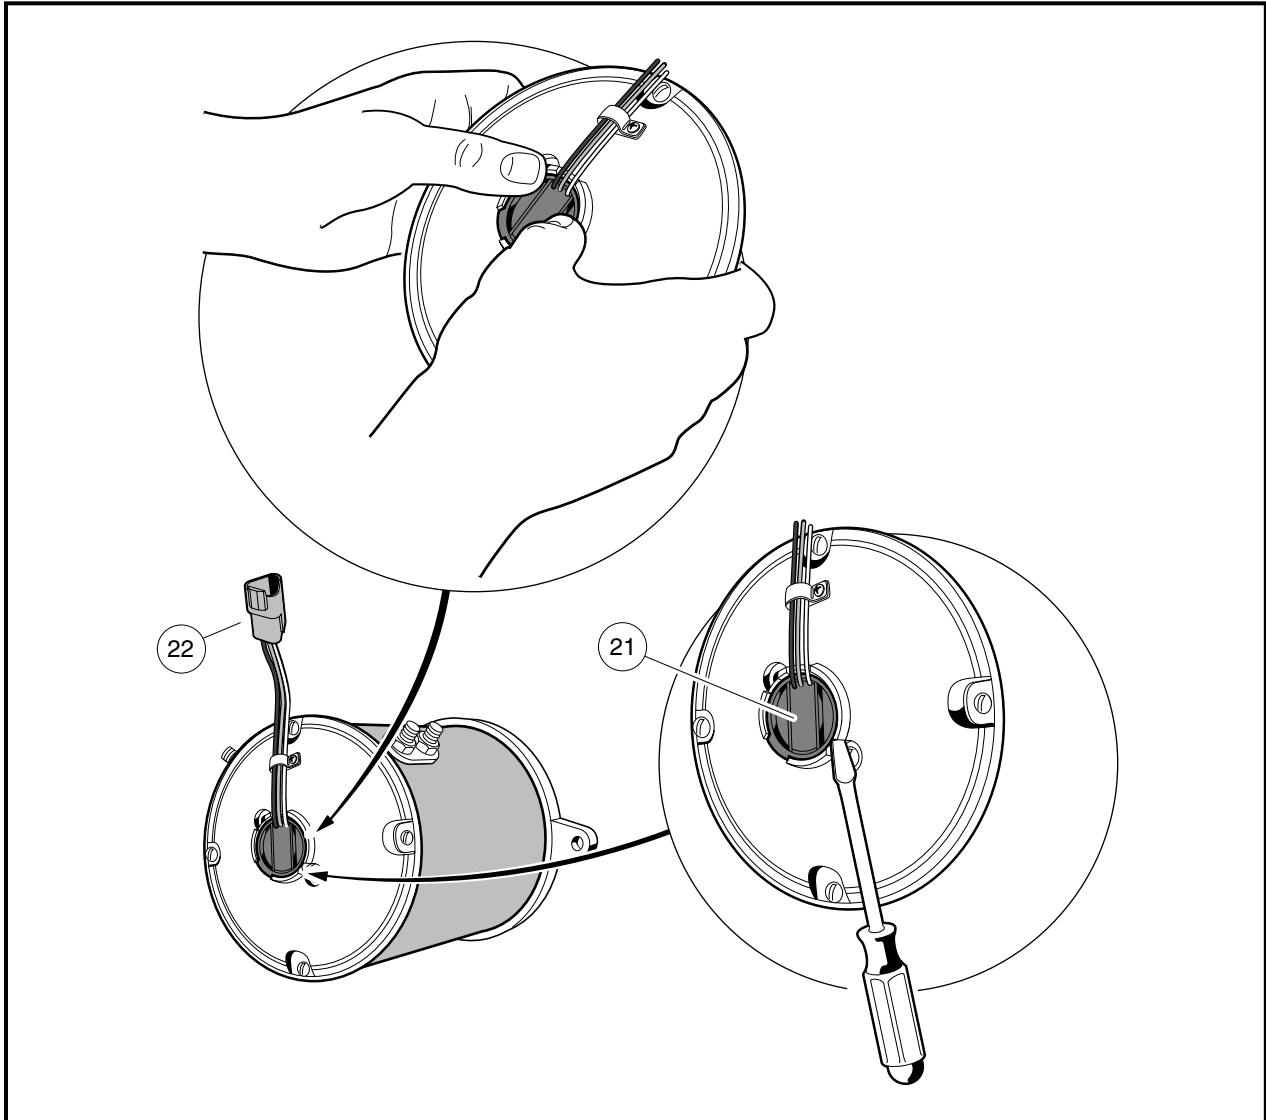

Figure 15-20 IQ Motor Speed Sensor
2. Disconnect the three-pin connector (22) from the vehicle wire harness (**Figure 15-20, Page 15-16**).
3. Using a screwdriver, gently pry the motor speed sensor (21) from recessed area on the motor end shield.
1. Position the motor speed sensor (21) as shown and firmly press the speed sensor into the motor end shield. Sensor should fit flush against the motor (**Figure 15-20, Page 15-16**).
2. Connect the three-pin connector (22) to the vehicle wire harness.